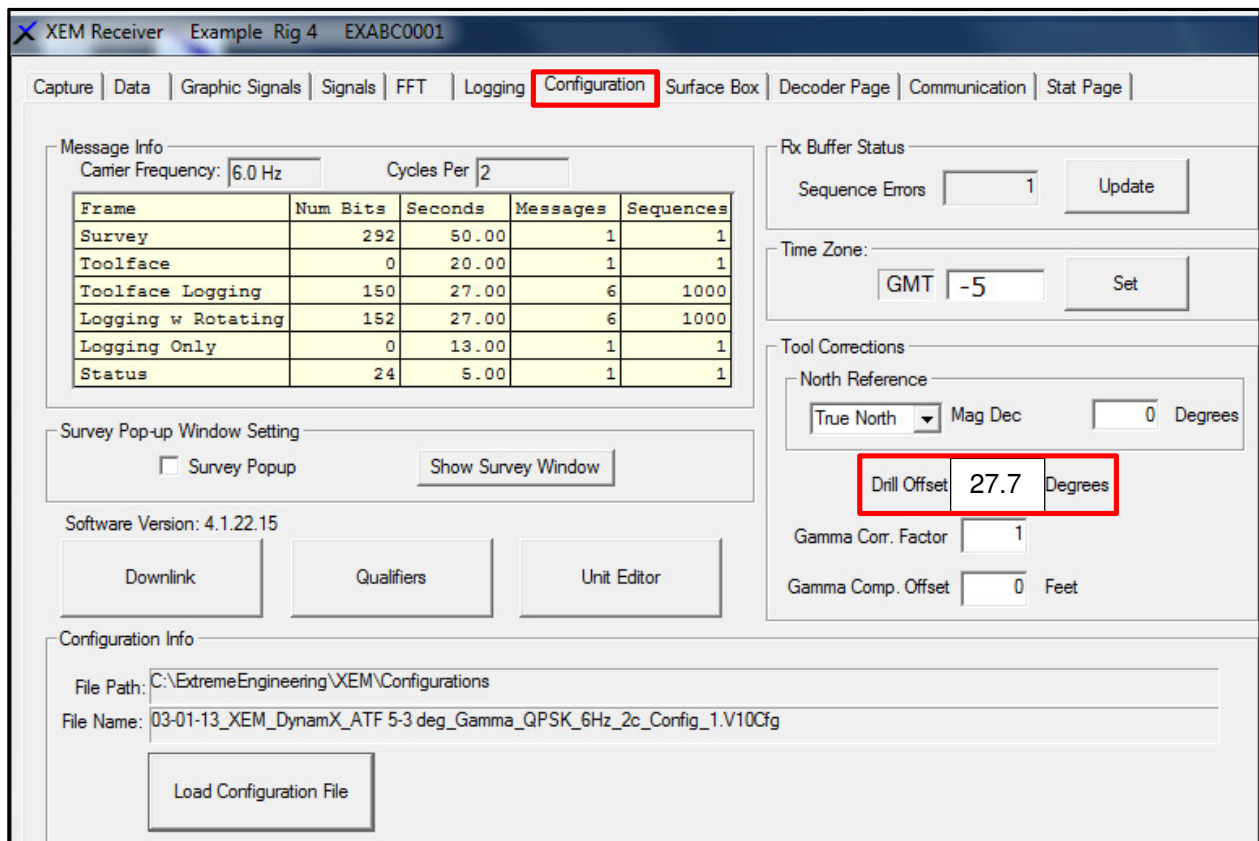

Figure 15 Drill offset Initialization in the XEM Receiver
14. The Drill offset Angle is entered in the Tool Corrections section in the Configuration tab of the XEM Receiver as shown in Figure 15.